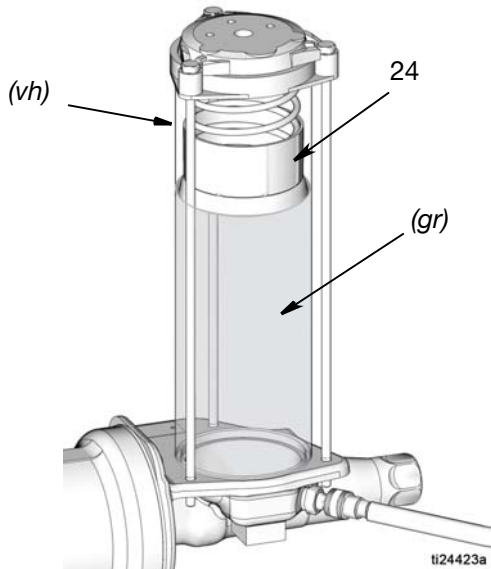

FIG. 5
3. Slowly dispense grease from the fill pump into the reservoir until the grease in the reservoir lifts the follower plate (24) above the reservoir vent hole (vh) and grease comes out of the vent hole (vh) and expels the air inside the reservoir (FIG. 5).
NOTE: The vent hole (*vh*) is located toward the back side of the reservoir and cannot be seen in FIG. 5. The approximate location of the vent hole is identified as *vh* in the illustration.